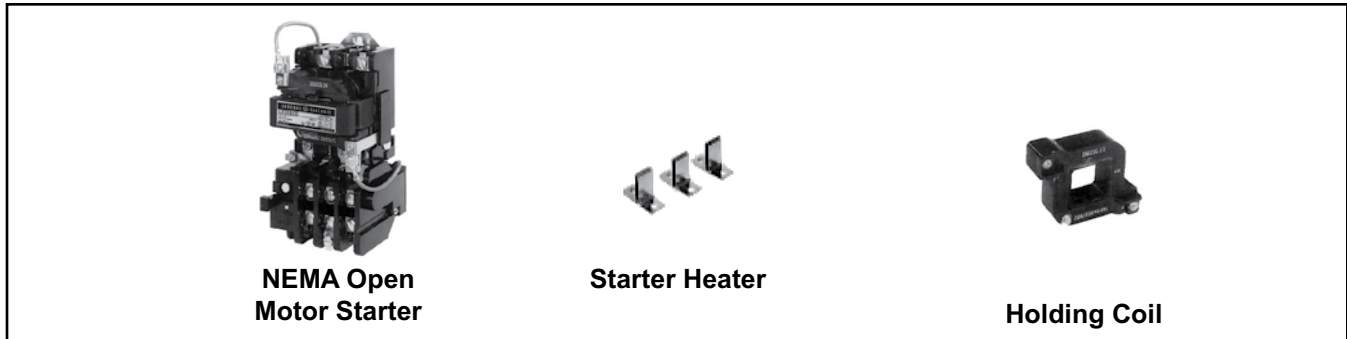

Figure 5. Replacement Parts for NEMA Starters
- NEMA starters are used on units manufactured before OCT 1992. Replacement parts for NEMA starters are shown in Figure 5.